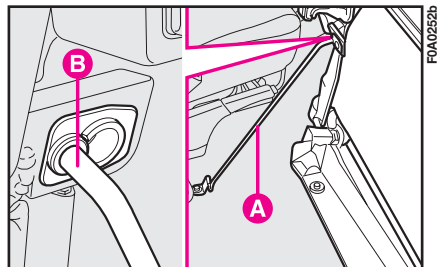

fig. 56
- lock the seat using the special rod **A**-fig. 56 and fitting it into slot **B** on the seat.